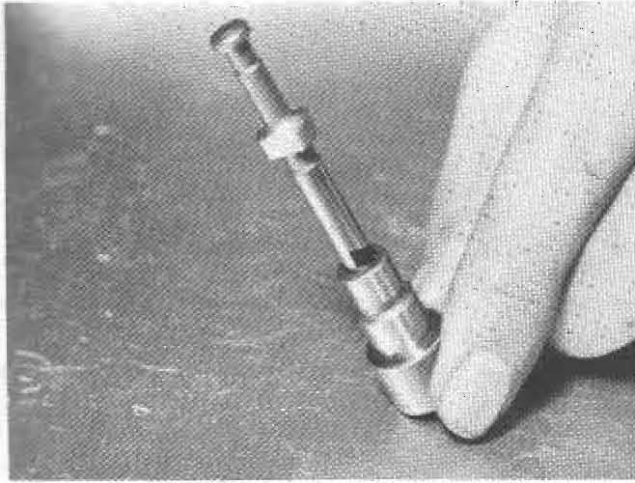

Fig. 5-10 Plunger and Barrel Free-Fall Test
- c. Free fall of the plunger and barrel. After thoroughly cleaning the plunger and barrel, tilt them about 60°. Plunger should slide down slowly (Fig. 5-10)